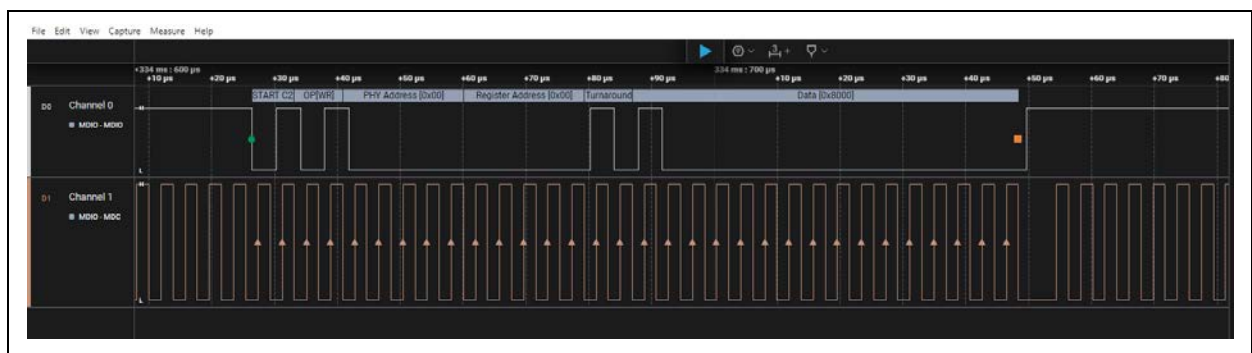
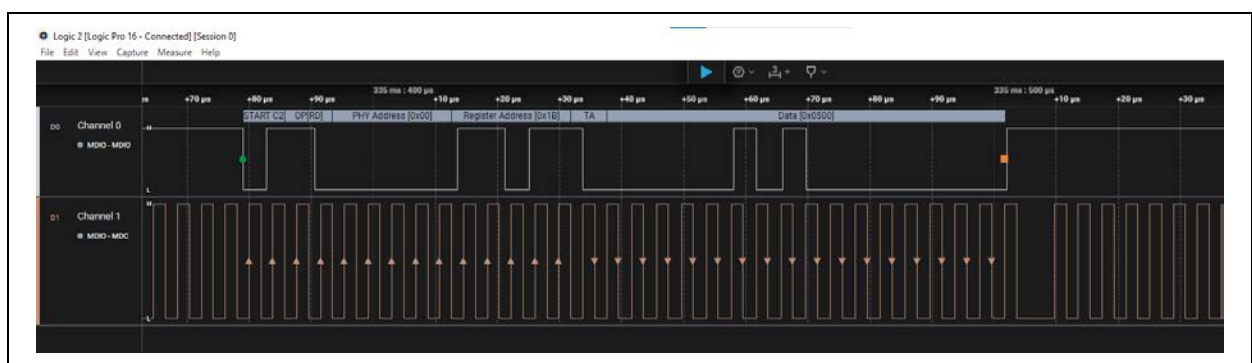

Figure 19. Snapshot of RA (EK-RA6M5 board) PHY Write using Saleae Logic analyzer
Figure 20. Snapshot of RA (EK-RA6M5 board) PHY Read using Saleae Logic analyzer
- Verify that you can write and read from the PHY device with the PHY APIs provided by FSP. This can be verified using the protocol Analyzer (such as the Saleae logic analyzer) with a MDIO analyzer connecting the MDC and MDIO line (Reference **Figure 19** and **Figure 20**).
By connecting the MDC and MDIO pins to Saleae logic analyzer the MDIO Write and read operations can be captured. In the **Figure 19**, you can see the snapshot of PHY write to the PHY address 0x00 and Register Address 0x00 with the Data 0x8000 can be seen. Similarly, in **Figure 20**, the PHY read for the PHY address 0x00 and register address 0x1B with the data 0x0500 are shown.